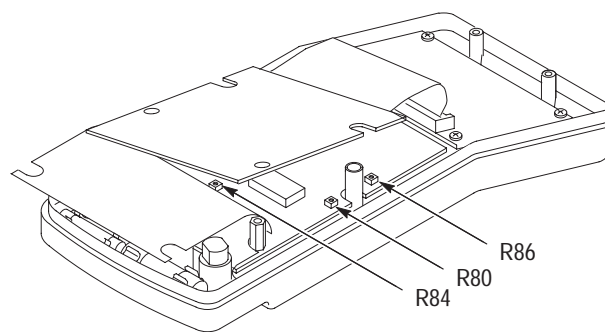

Figure 4: Adjustment locations
7. Adjust R80 to align the trace to the display center line. See Figure 4 for the adjustment location.